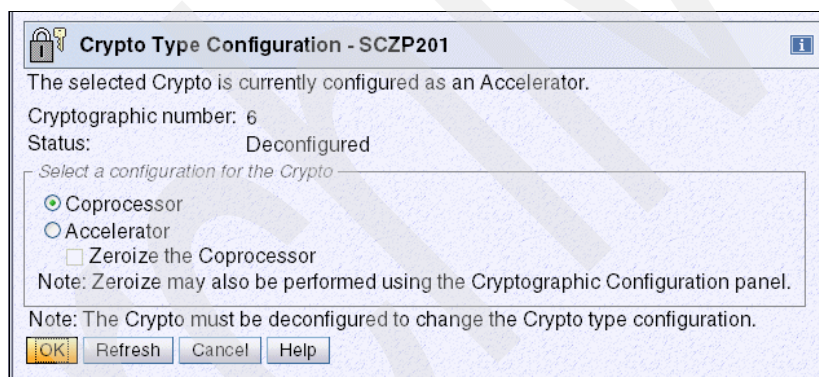

Figure 8-28 Crypto Type Configuration (Accelerator to Coprocessor)
2. The selected crypto channel is currently configured as an Accelerator, as shown in Figure 8-28. Select **Coprocessor** and click **OK** in the panel.